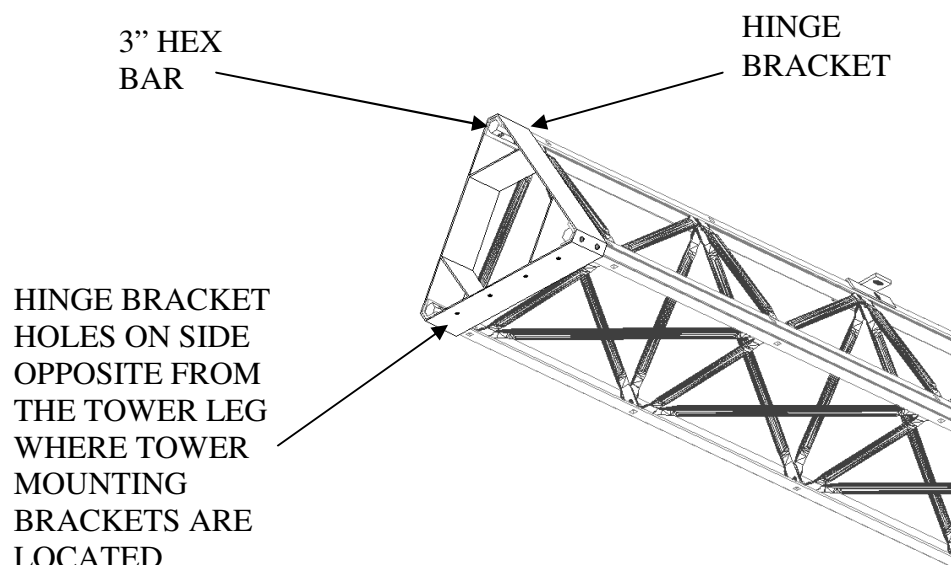

Figure 3 – Hinge Bracket Mounted with 3" Hex Bars
4. Attach one of the hinge brackets (item 10) to the top of the bottom tower section (item 4) using the 3" hex spacer bars (item 6) and  $7/16"$  x 2" hex bolts and hardware (items 26, 29, 30). Ensure that the holes on the hinge bracket for the hinge assembly are facing the top of the tower section and that these holes are on the opposite side of the tower leg that has the 4" mounting bracket and winch mounting bracket (items 8, 14). See Figure 3.